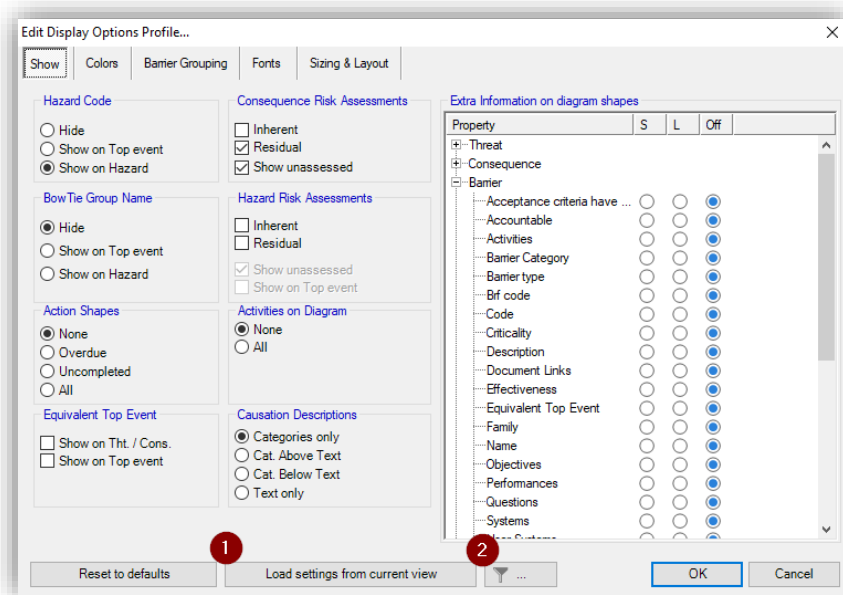

Figure 177 – Edit display profile
4. Press the “Load settings from current view” button (1) to load the current configuration into the profile.
5. You can further customize the profile, or optionally add the advanced filter (2) to it (see Figure 177 – Edit display profile). To know more about how the filters work, see Chapter 7.5.4 - Filtering the diagram on page 68.